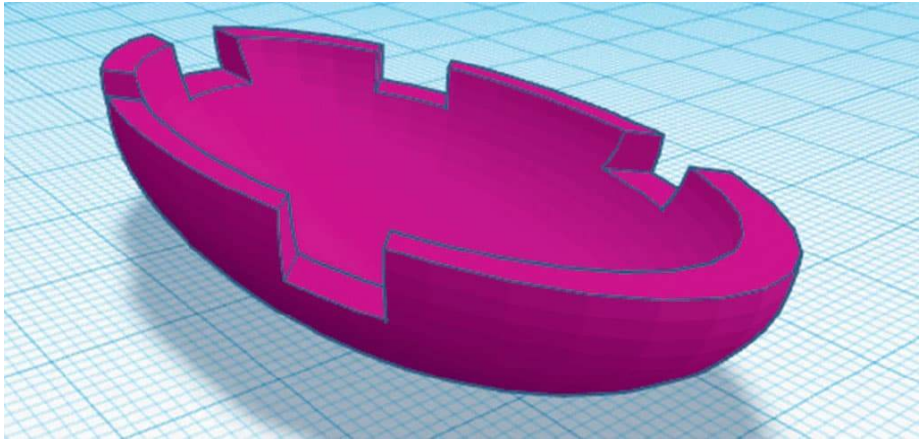

FIG. 5: Group the hole-bars and spoon spheres together.
5. Group all the hole-bars and spoon together with the **Group** tool to get a spoon with teeth as shown in fig. 5.